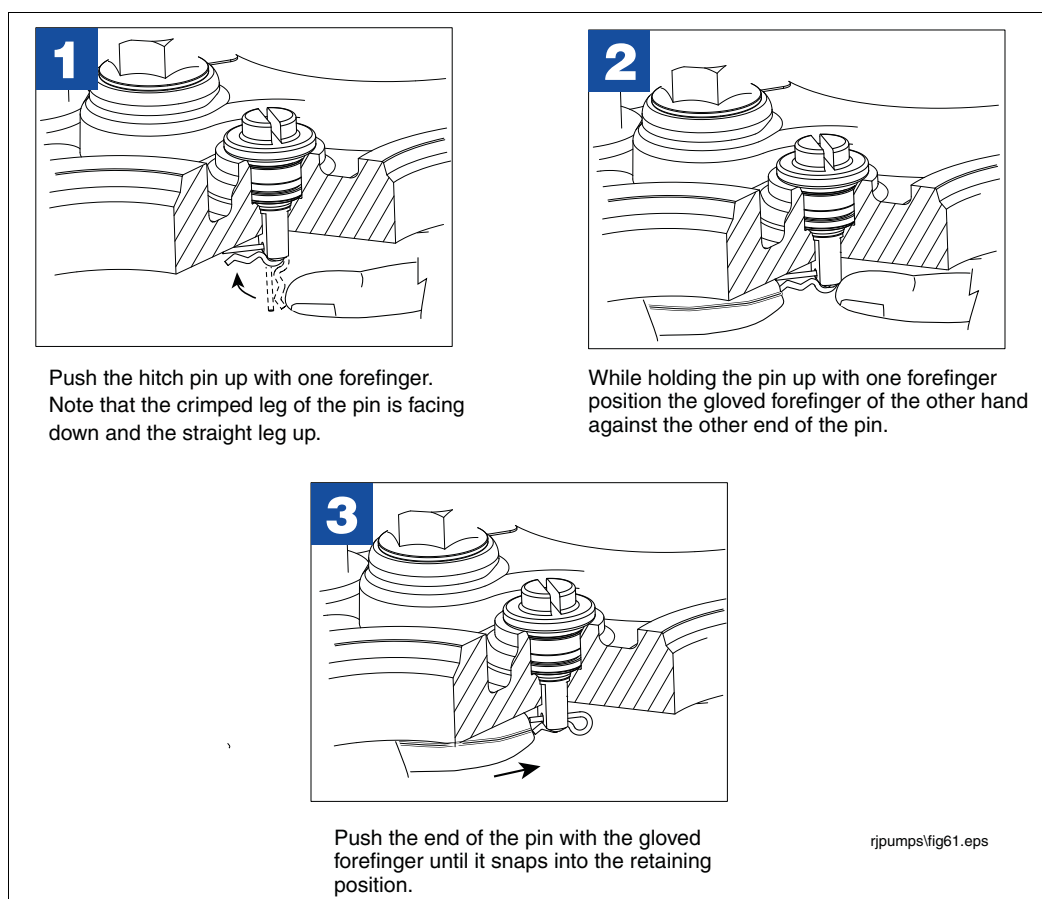

Figure 42. Installing Air Purge Screw Hitch Pin In The Retaining Position
9. When the screw is turned clockwise all the way down, but not tight, use the forefinger of one hand to push the hitch pin up as shown in diagram 1 of Figure 42.
10. While holding the hitch pin up with the forefinger of one hand, place the gloved forefinger of your other hand against the end of the pin as shown in diagram 2 of Figure 42.
11. Push the end of the pin with the gloved forefinger until it snaps into the retaining position as shown in diagram 3 of Figure 42.